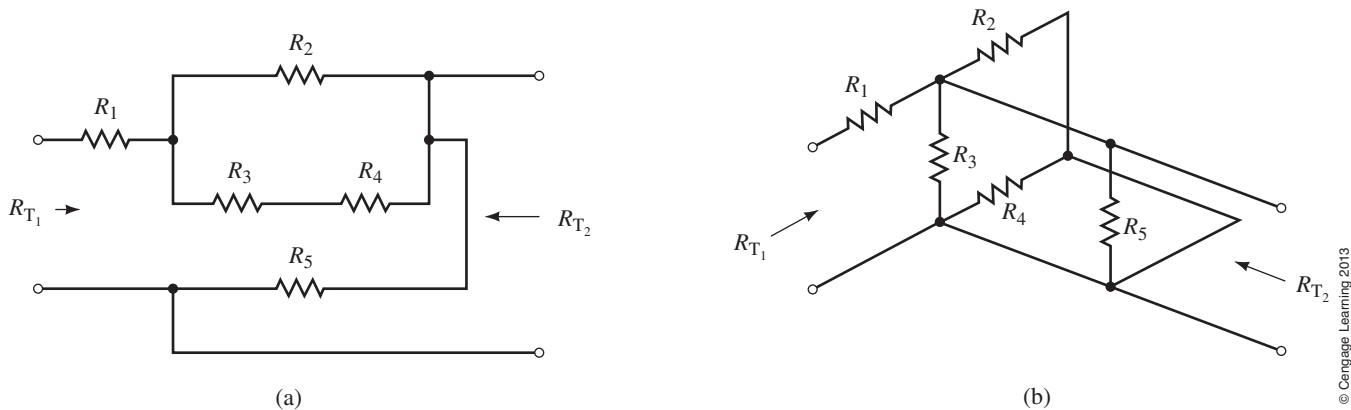

FIGURE 7-48
3. Write an expression for both R_{T1} and R_{T2} for the networks of Figure 7-48.